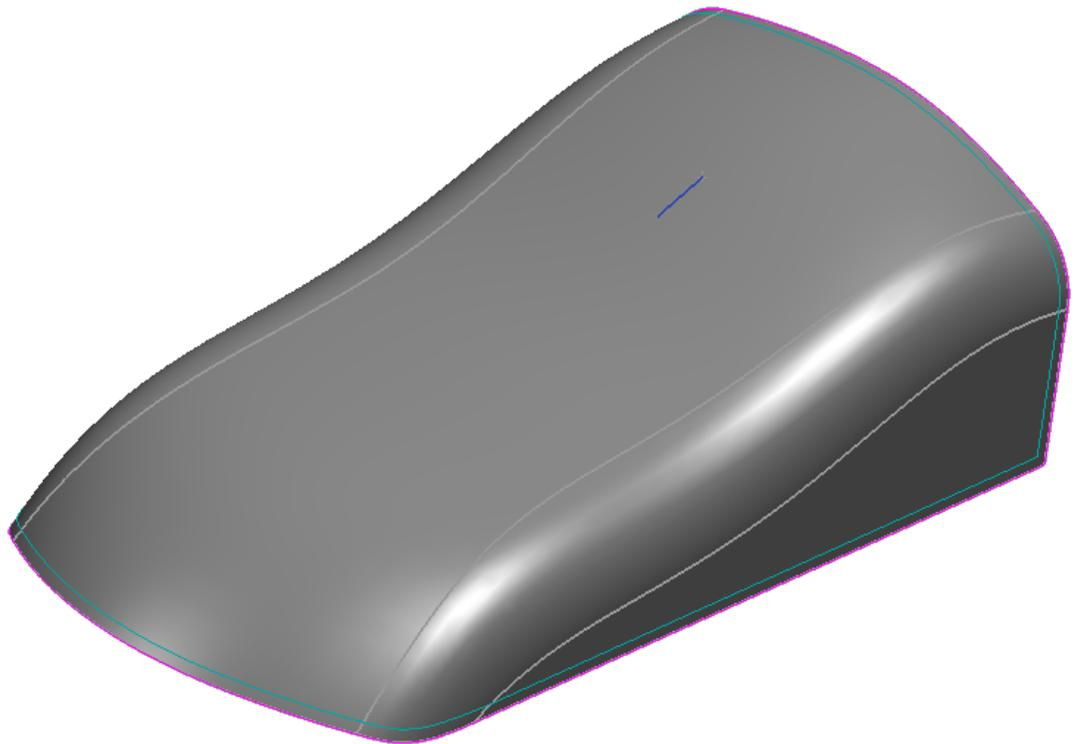

Figure P3–2
1. Open **PROJECT3_CORE.prt**. The model displays as shown in Figure P3–2.